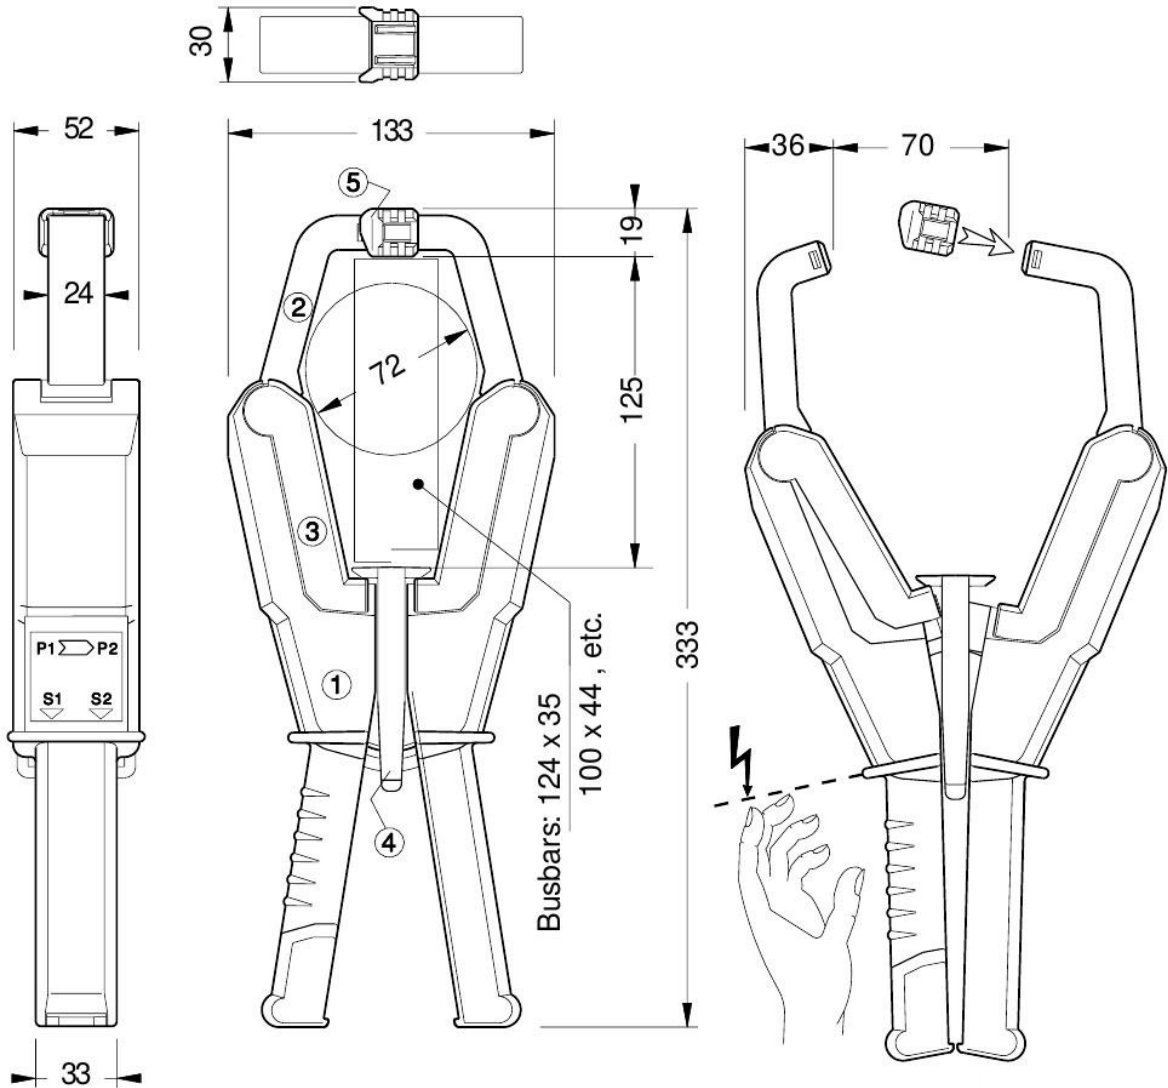

Figure 2.61: Dimensions in mm and protection against electric shock and short-circuit
- Use safety cover 'P' Figure 2.61 [→76] for protection against short-circuits during clamping!